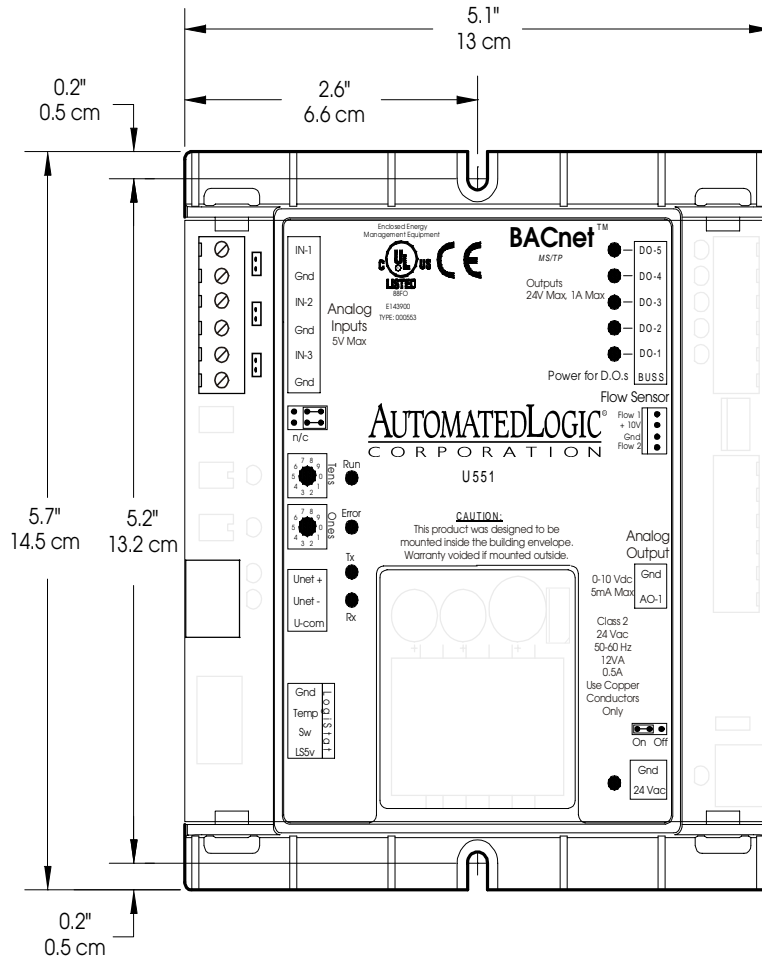

FIGURE 1. U551 LAYOUT AND DIMENSIONS
3. Connect the Unet communication wires to the Unet Port (see Figure 1 on page 3).